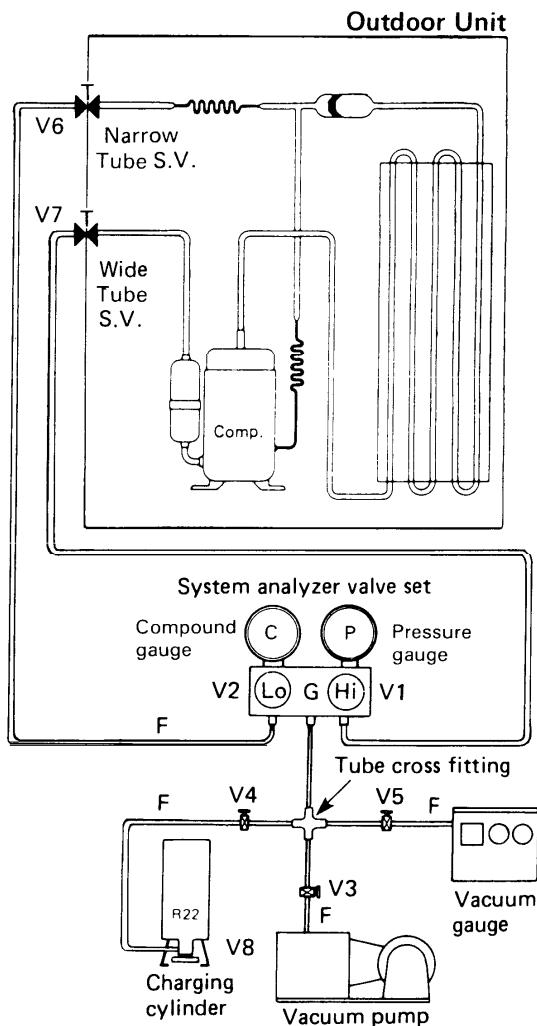

Fig. D-20
- 1) Connect instrument as in Fig. D-20.